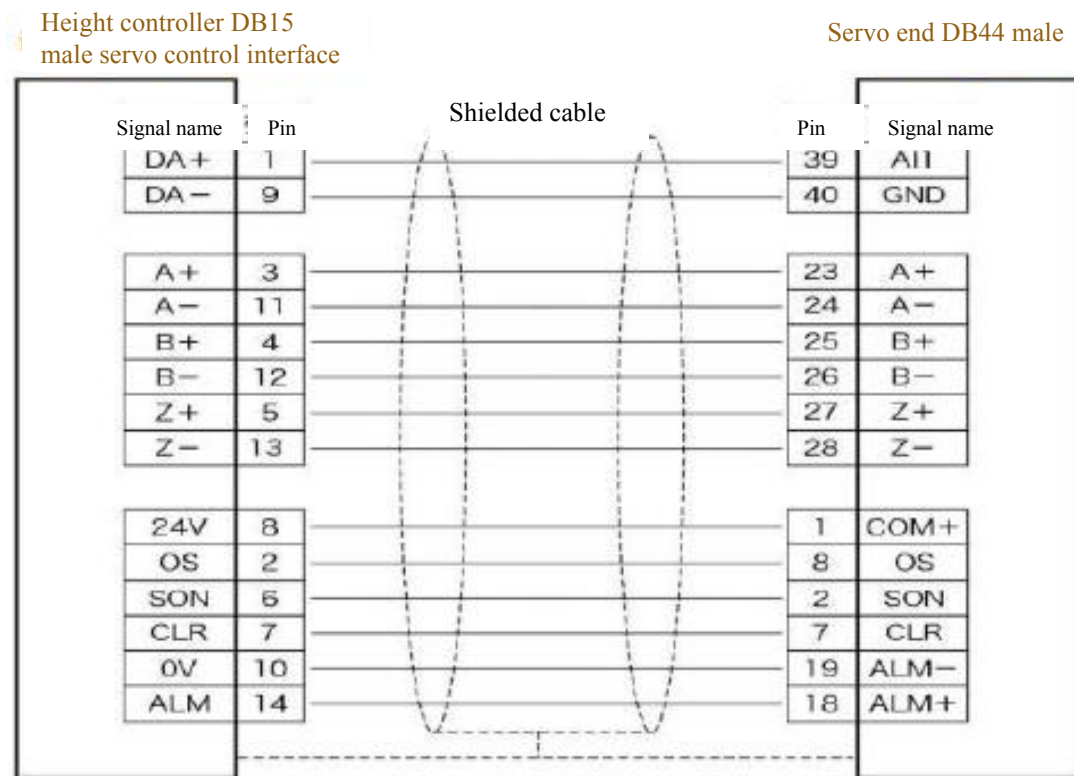

Figure 2.4
③ Height adjuster wiring, as shown in Figure 2.4 below.